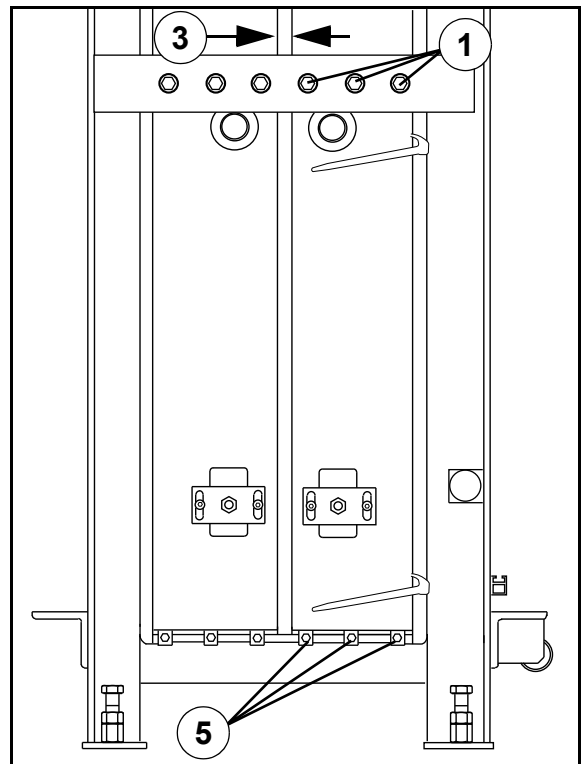

Fig. 28
- 2 Use a pinch bar to adjust the pressure between the upper part of cooling bars, see Fig. 28.
- 6 Use a pinch bar to adjust the pressure between the lower part of cooling bars, see Fig. 28. Adjusted equally as on upper part in order to keep the cooling bars parallel with equal pressure.